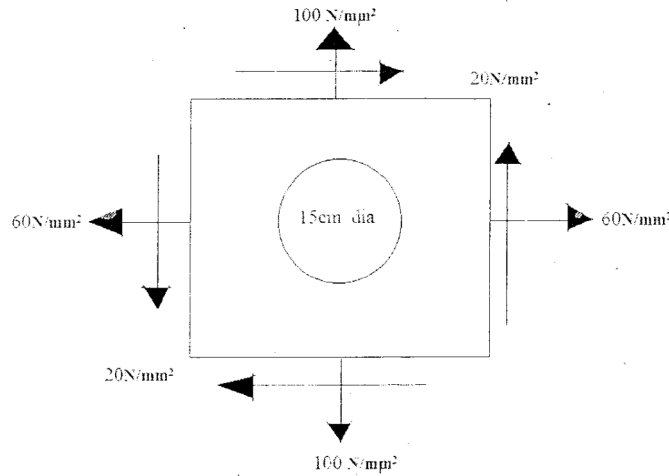

Fig.3
8. A circle of 15cm diameter is inscribed on an aluminum plate before it is stressed. The plate is then loaded so as to produce stresses as shown in Fig.3 and the circle is deformed to an ellipse. Determine the major and minor axes of the ellipse and their directions. Given  $E = 70 \times 10^3 \text{N/mm}^2$ , poisson's ratio  $(1/m) = 0.33$